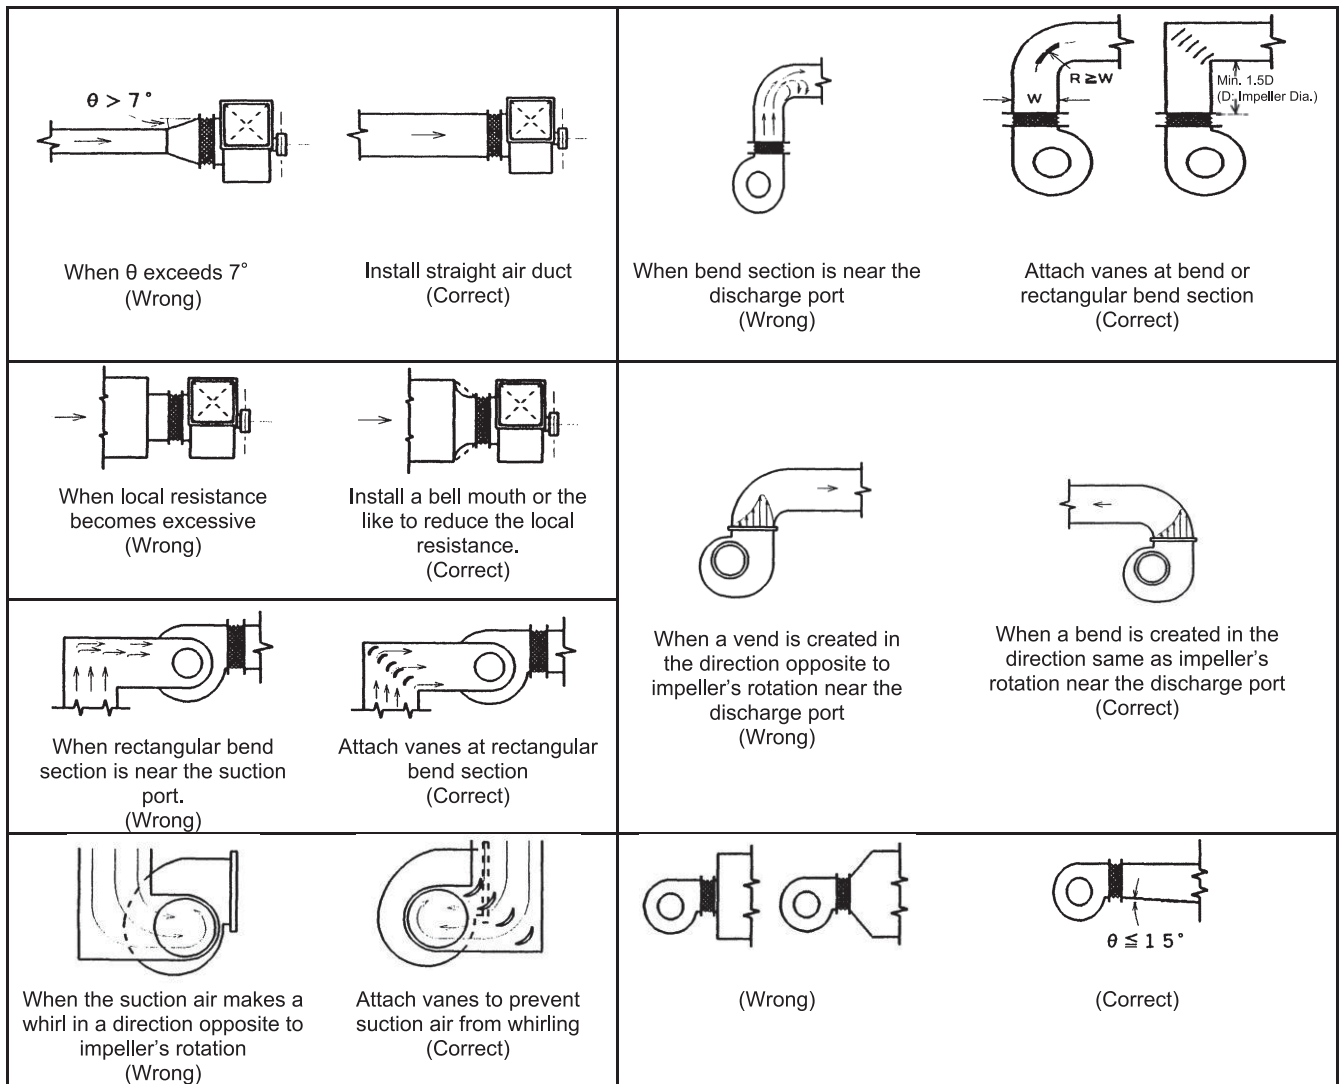

Figure 12 - Examples of duct installation
- (2) Before connecting the ducts, check the inside of the ducts and fan, and remove any foreign matters, such as waste cloth and tools.
- (3) If the duct diameter is tapered significantly compared to the fan bore, if the duct is fitted with a series of bends, or if bends are provided immediately before or after the fan, pressure loss will increase. Refer to the piping example shown in Figure 12.
- (4) Provide a damper for air flow control as needed.
- (5) To prevent the suction of foreign matter, install a wire mesh at the duct intake as well as at the fan suction port where the atmospheric air is directly sucked in. In addition, if dust or water droplets are expected to enter the fan, be sure to install a filter to prevent them from entering.
- (6) If the fan is exposed to the wind opposite to its blowing direction, install a check valve to prevent reverse rotation of the impeller.